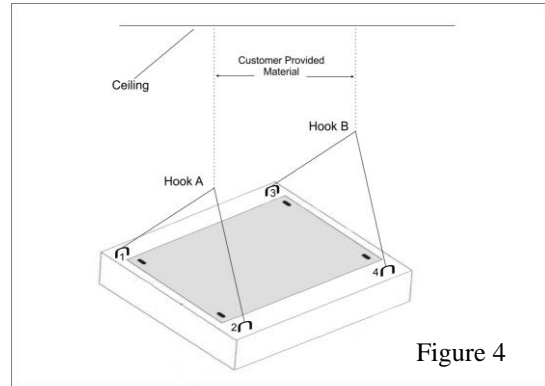

Figure 4
5) You will need to provide the material to attach the harness to your ceiling. Attach two supporting lines to your ceiling- One from hook A to the ceiling support and one from hook B to the ceiling support. The manufacturer would recommend you use the same material that is used to hang your light fixtures (i.e. thread rod, metal chain, metal cable, etc.) **See figure 4 below.**